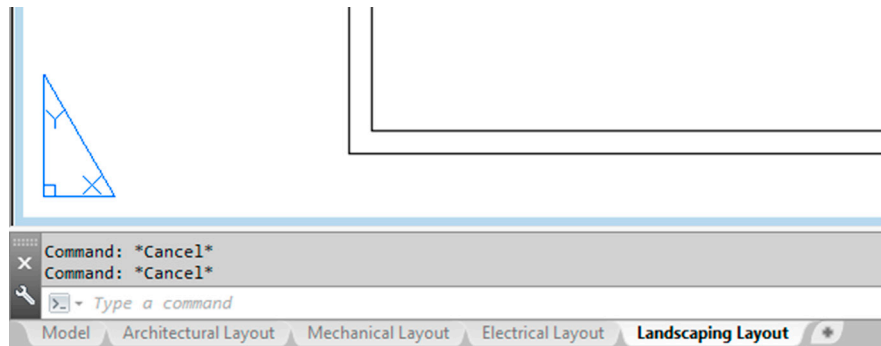

FIGURE 10.12 All tabs.
If you use the Move or Copy approach, be sure to do two things. First of all, check off the Create a copy box at the bottom left and click on the (move to end) choice, which simply places the new title sheet next in line after the existing Architectural Layout and may be important later when it comes to the printing order. Finally, click on OK and observe what happens with the tabs. A new one appears, saying Architectural Layout (2), and it is a perfect copy of the previous existing tab. Go ahead and rename it Mechanical Layout. Repeat the whole procedure to create a third tab, called Electrical Layout, and finally a fourth tab, called Landscaping Layout. The final result is in Fig. 10.12.